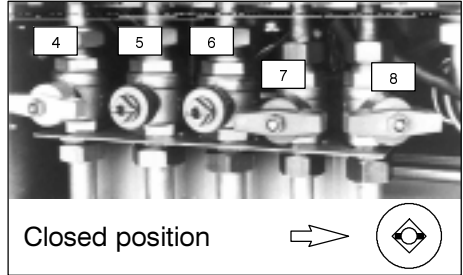

fig. 2.10
- 2 Shut off the gas supply cock (4) and the cocks for the water circuits (5, 6, 7 and 8) fitted under the boiler (fig. 2.10);
shut off the taps positioned under the boiler (fig. 2.10 in page 6) and call an Authorised Service Centre Engineer.